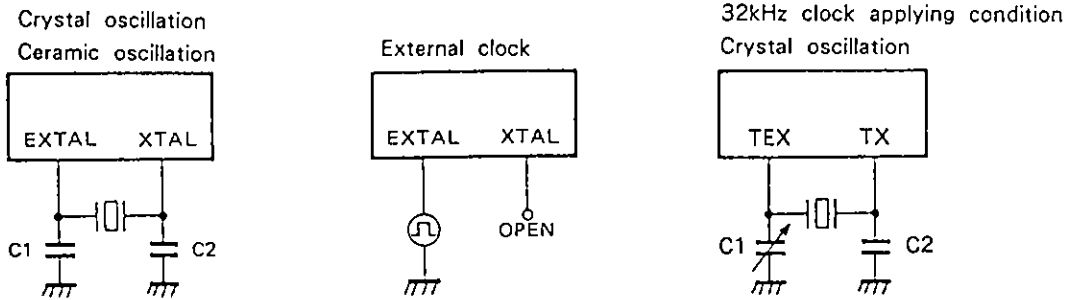

Fig. 2. Clock applying condition
**Note)** When adjusting the frequency accurately, there may be cases in which they may differ from Fig. 2.